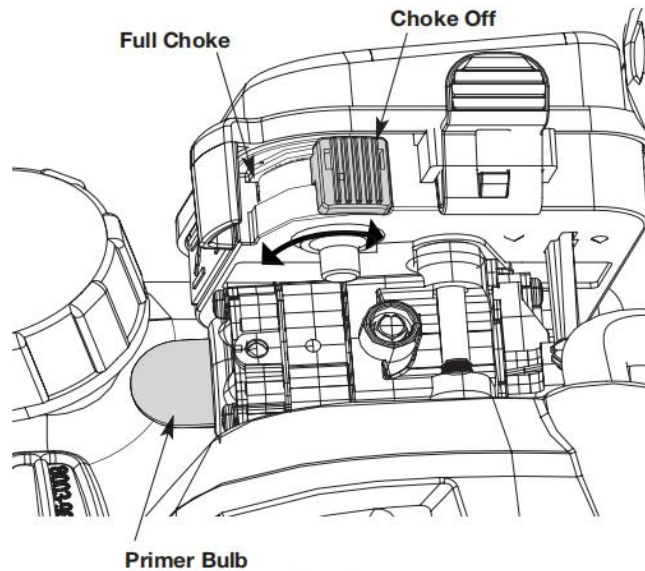

Fig. 6
d) Slowly press the primer bulb 10 times (Fig. 6).
e) Move the choke lever to the Full Choke position (Fig. 6).